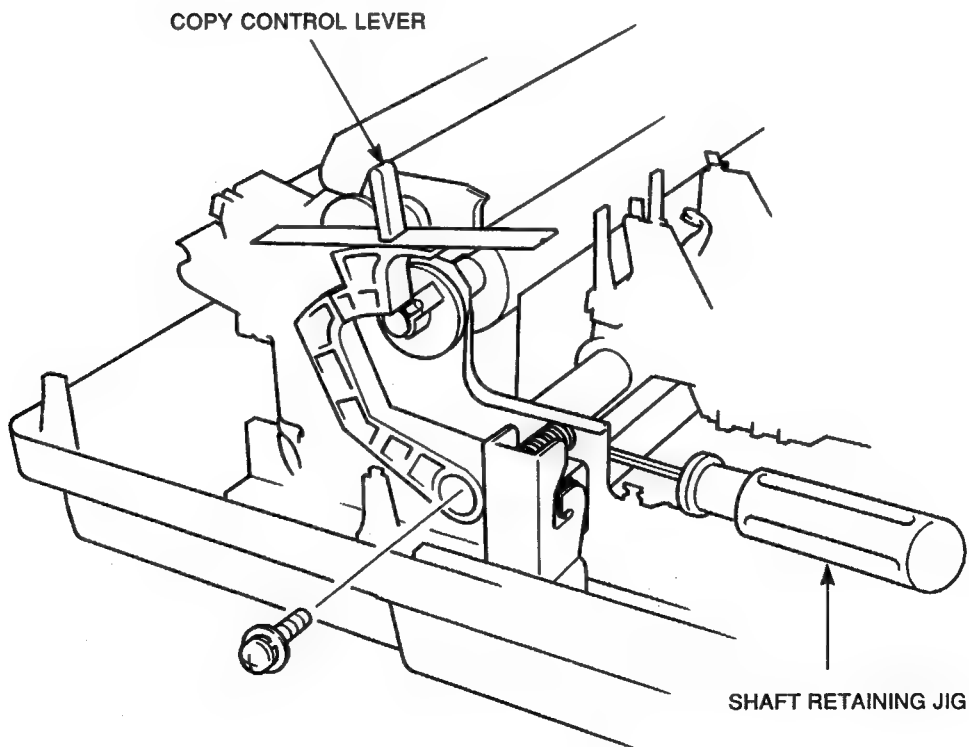

Figure 4-2 Print Head Adjustment
9. If the gap needs to be adjusted, remove the copy control lever mounting screw, and retighten the screw temporarily (see Figure 4-2).